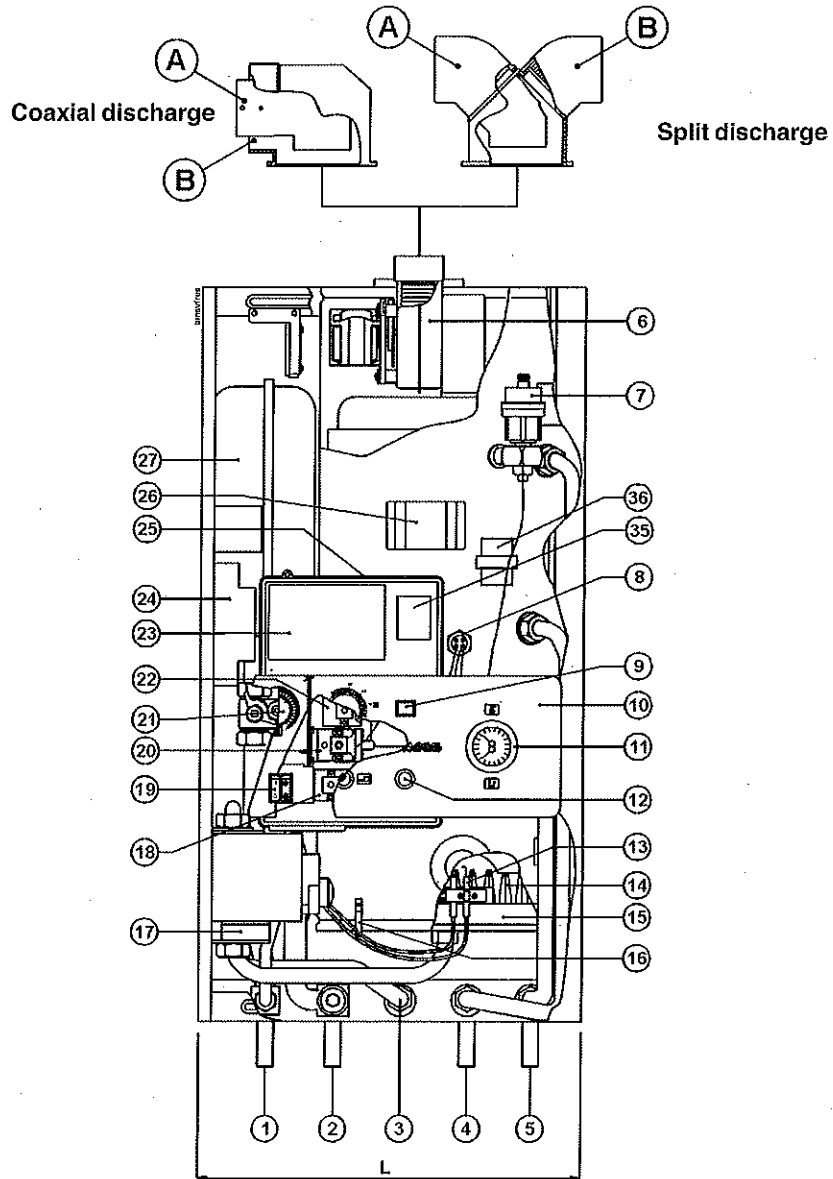

Figure 1 - BMS Front view
Install a manual gas cock outside of the heater. Refer to Figures 1 and 3, item 3, for the gas inlet location of the heater.
This is installed by removing the electrical junction box cover indicated in fig.6, (see fig.1 and 3, item 26), and connecting the two wires of the room thermostat, or zone valve control thermostat, to the low voltage terminals, (figure 6, item B). **NOTE: first remove factory installed jumper from terminals.** The room thermostat must always be located in a point of the house where the temperature is not subject to sudden changes.